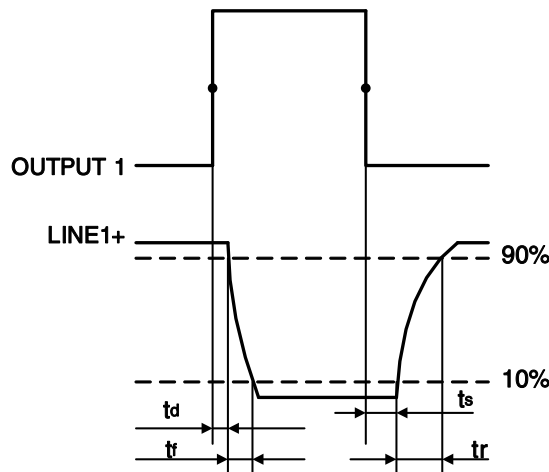

Figure 7-6 Parameter of opto-isolated output circuit
- Rising time delay = t_r+t_s : $<50\mu s$ (0°C~45°C) (parameter description is shown in Figure 7-6)
- Falling time delay = t_s+t_f : $<50\mu s$ (0°C~45°C) (parameter description is shown in Figure 7-6)
- Rising time delay = t_f+t_d : $<20\mu\text{s}$ ($0^{\circ}\text{C}\sim 45^{\circ}\text{C}$) (parameter description as shown in Figure 7-6)
- Falling time delay = t_r+t_s : $<20\mu\text{s}$ ($0^{\circ}\text{C}\sim 45^{\circ}\text{C}$) (parameter description as shown in Figure 7-6)